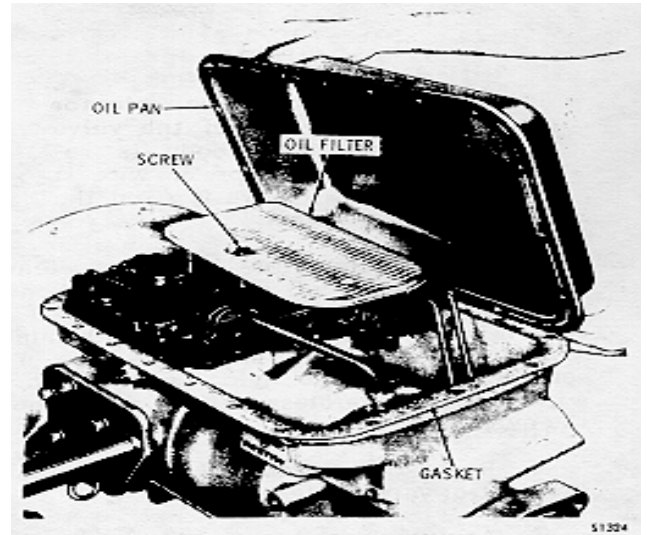
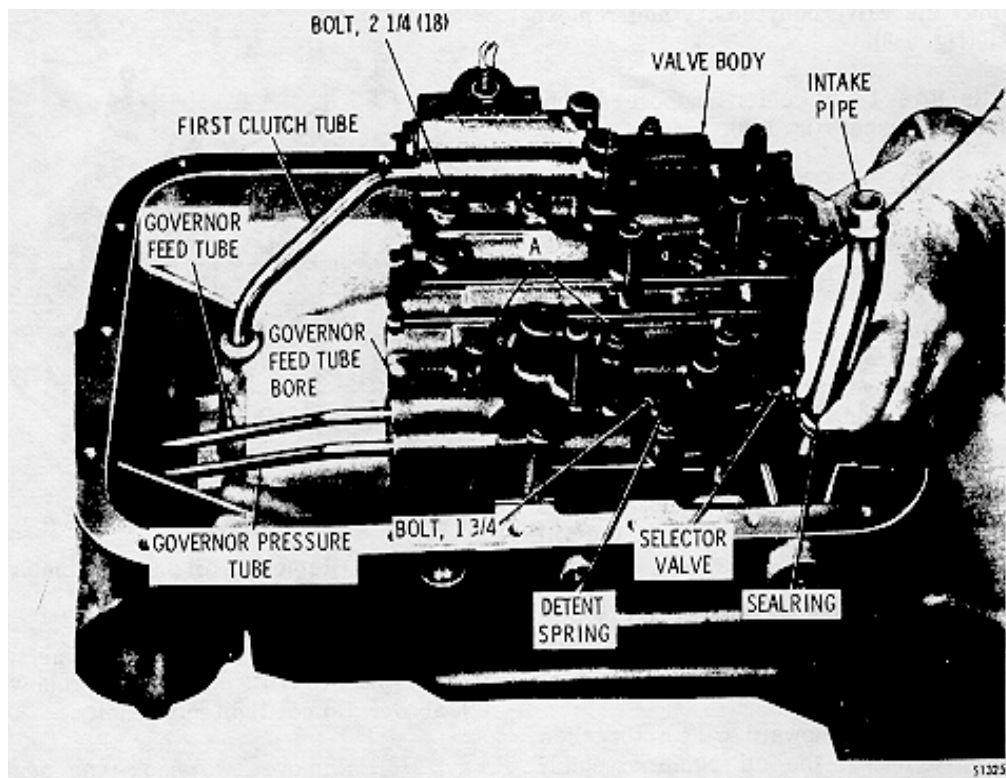

Fig. 5-6 Removing oil pan
Fig. 5-7. Removing oil intake pipe
(2) Remove the oil pan (fig. 5-6).
(1) Remove the screw that retains the oil filter (fig. 5-6). Remove the oil filter.
(2) Remove the oil intake pipe and seal ring (fig. 5-7).
a. Remove the bolt that retains the detent spring (fig. 5-7). Remove the spring.
b. Remove the eighteen bolts that retain the valve body (fig. 5-7).
c. Remove the control valve body (fig. 5-7) by lifting upward on the body and the Fig. 5-6.
d. Remove the three oil tubes. Remove the wire governor oil screen, located in the governor feed tube bore (fig. 5-7). If the screen is not damaged, clean it with mineral spirits. Some earlier models used a nylon screen. Replace the nylon screen with the wire screen regardless of the condition of the nylon screen.